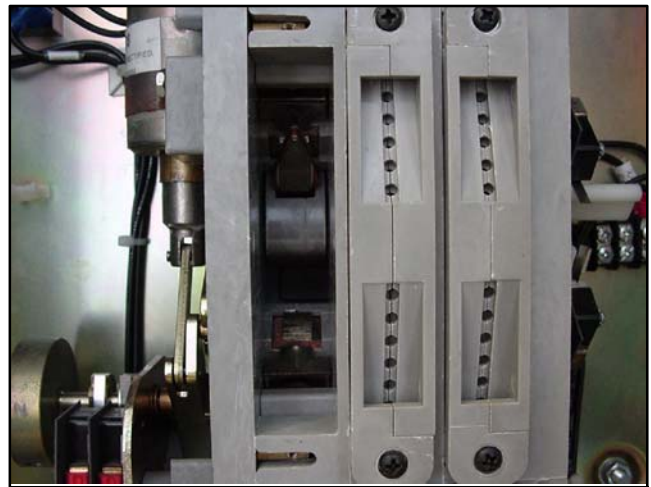

Figure 7-38 Movable Contacts (arc chute removed)
7. Inspect the movable contact for damage. See Figure 7-38. If damage is found, order a replacement contactor and continue to Step 8.